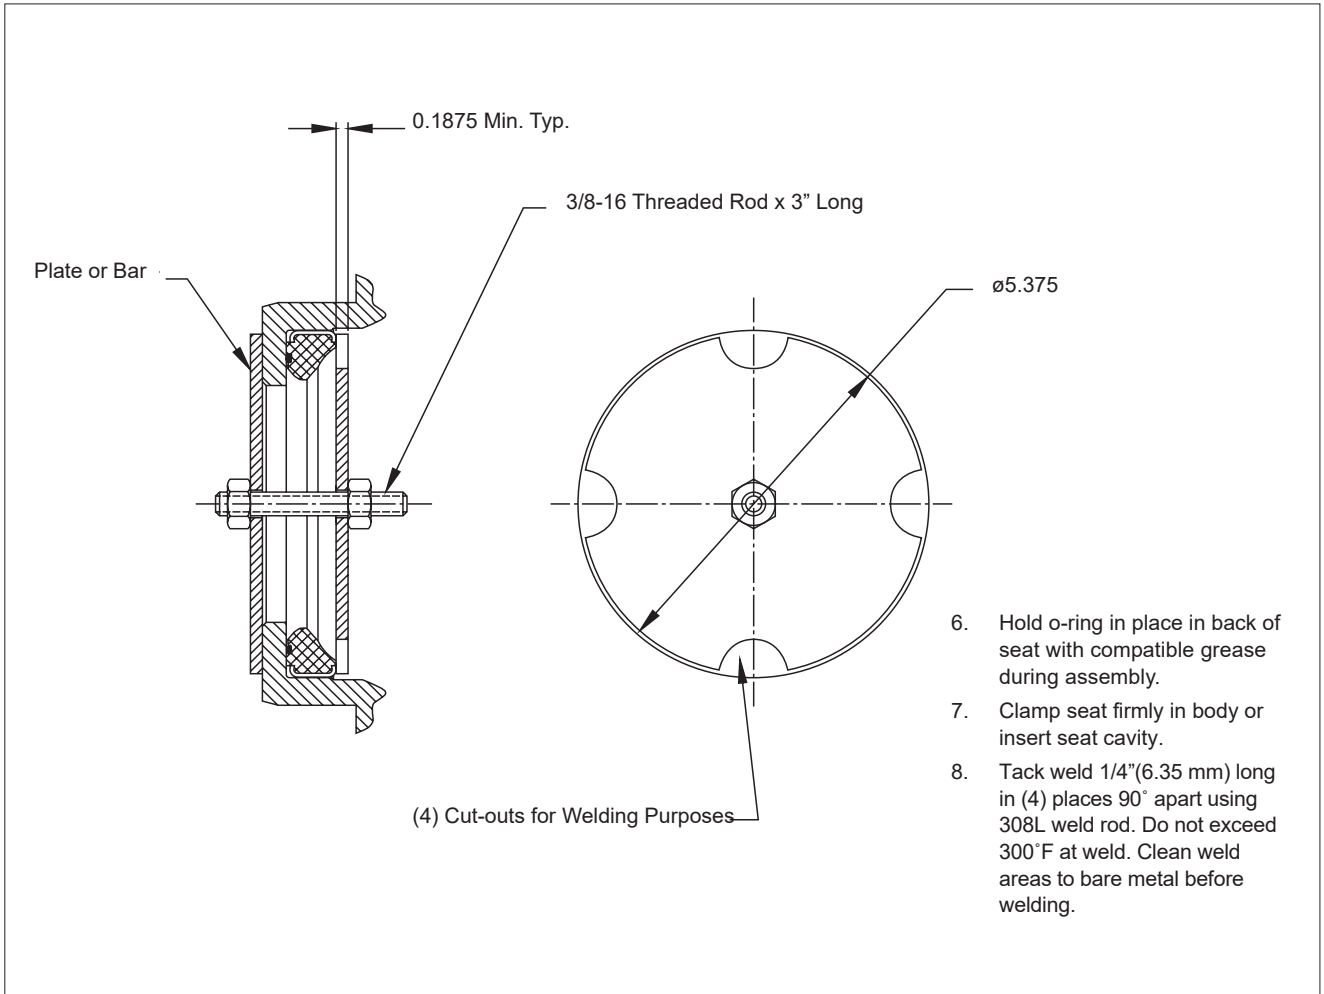

Figure 7. Barrier Seat Fixture & Instructions
4. Center and firmly clamp the seat (7) and O-ring (49) into the body (1) using the fixture in **Figure 7**. Ensure threads of threaded rod and nut are clean and in good condition. Apply a lubricant compatible with the media to the threads. To compress each seat, apply a torque of 12 – 15 ft lbs to the nut. Tack weld the seat into position per the instructions indicated in **Figure 7**.
5. Assemble seat (7) and O-ring (49) into the insert (2) using steps 1 – 4 above and **Figure 7**.